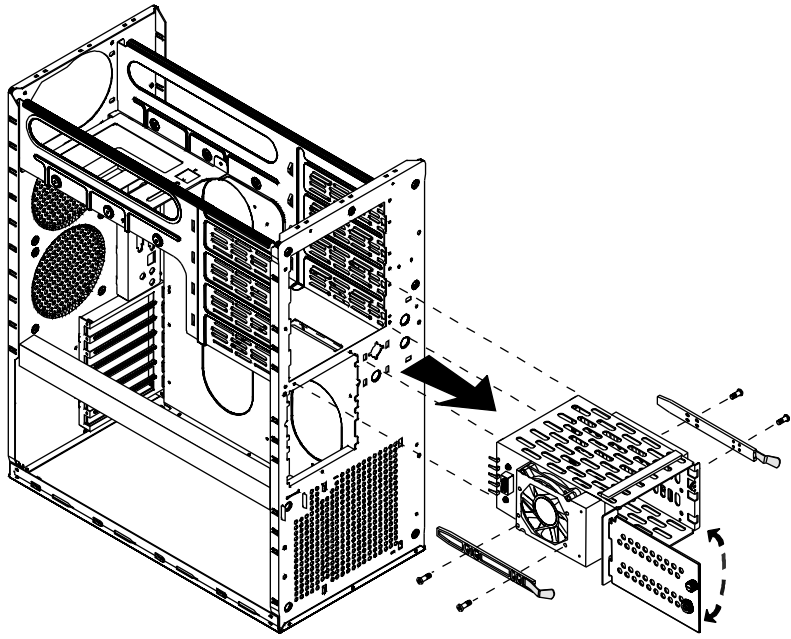

Figure 28: Removing the RAID Cage
- 4.** Remove the old RAID Cage by pressing the tabs on the slide rails toward the center of the cage and pulling the cage out of the 5.25-inch drive bay (see Figure 28).